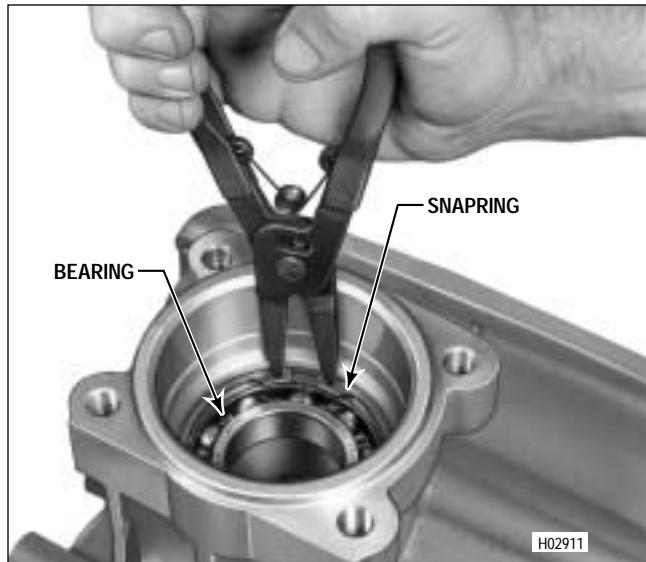

Figure 5-24. Removing Output Shaft Bearing Snapring
- (1) Rotate the transmission so that the output is upward. Remove output seal 6 (Foldout 12,B) from the rear of the transmission housing.
- (2) Clean the bore from which the seal was removed.
- (3) Remove the snapring that retains the output shaft bearing (Figure 5-24).
- (4) Remove the bearing from its bore.
- (5) Remove the transmission housing, with its remaining attached parts, from the transmission holding fixture. Refer to Paragraph 6-14 for rebuild of the transmission housing.